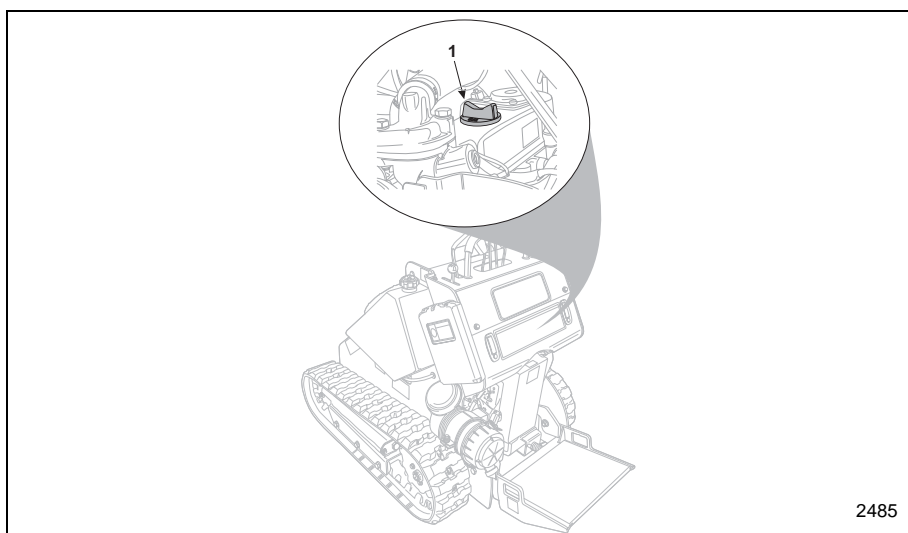

Figure 4-3 Engine Oil Filler Cap
- c. If the engine oil level is below the add line, carefully add the proper amount of oil through the engine oil filler (Item 1, **Figure 4-3**). To reach the oil filler cap, remove the lower locking service panel. It is important to add the correct type of engine oil as stated in the engine manual.